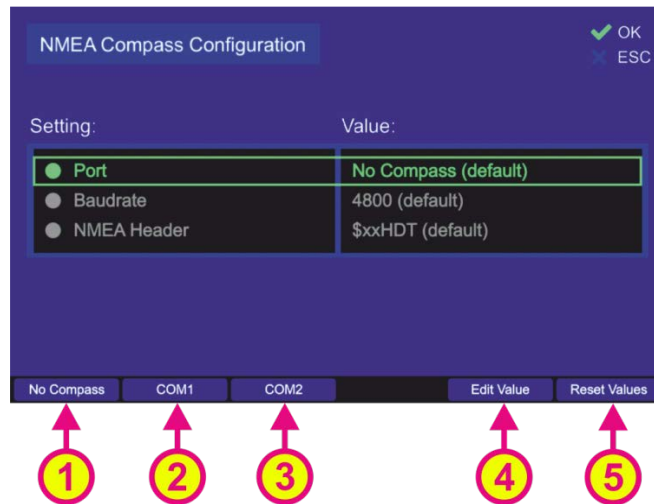
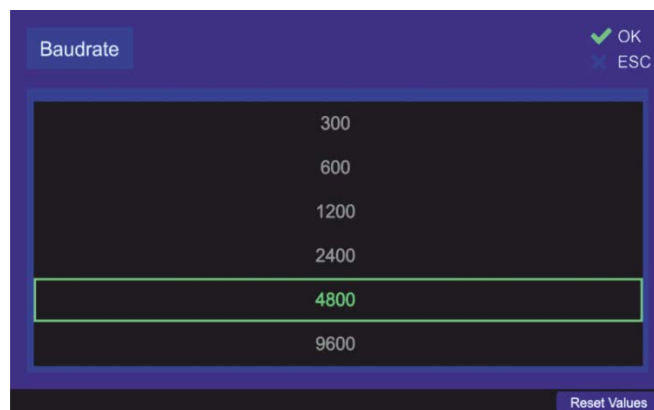
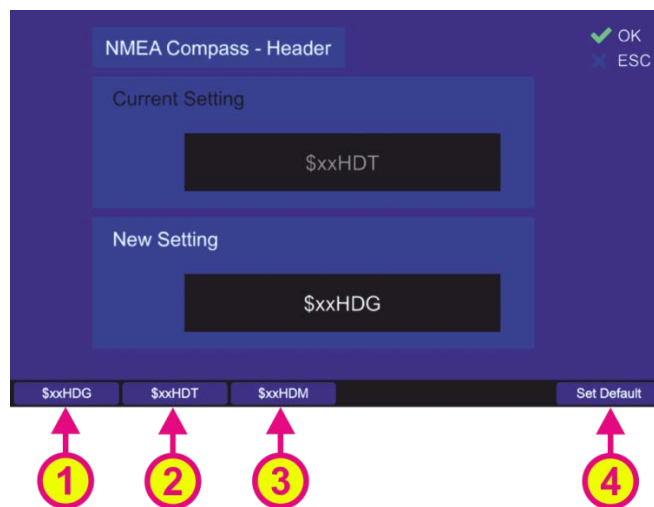
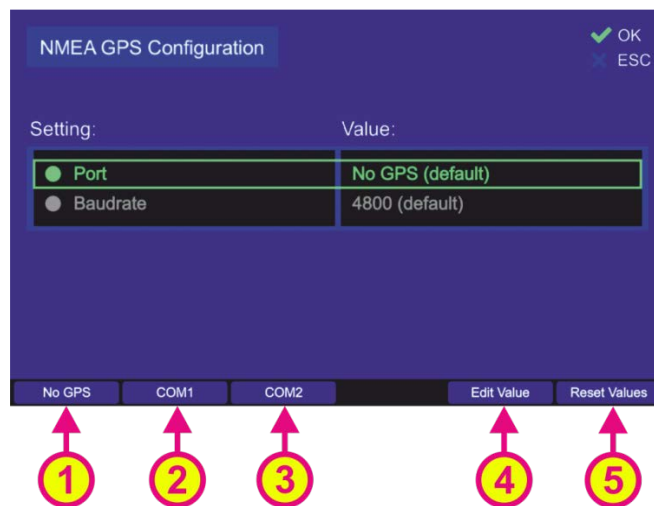

Fig. 152 Compass configuration settings
Fig. 154 Compass baud rate setting
Fig. 155 Compass header setting
Fig. 156 NMEA GPS configuration settings
Following sub-menu will appear (s. Fig. 152).
Pressing the hotkey “Reset Values” (s. Fig. 152, position 5) will set all menu items to default values.
- The communication port can be changed by pressing one of the visible hotkeys, e.g.: “No Compass”, “COM1” or “COM2” (s. Fig. 152, positions 1, 2 or 3), or the hotkey “Edit Value” while menu item “Port” is marked (s. Fig. 152, position 4). Using the hotkeys 1, 2 or 3 on the top level dialog “NMEA Compass Configuration” (s. Fig. 152), the value of the “Port” setting can be changed without opening the corresponding dialog.
- To change the baud rate, press the hotkey “Edit Value” while the menu item “Baudrate” is marked (s. Fig. 152). The corresponding sub-dialog will be opened (s. Fig. 154).
- In order to change the NMEA header setting, press the hotkey “Edit Value” while the menu item “NMEA Header” is marked (s. Fig. 152). The corresponding sub-dialog will be opened (s. Fig. 155).
- Choose the new setting using one of the hotkeys (s. Fig. 155), which will then appear in the “New Setting” field:
- Press the hotkey “Set Default” (s. Fig. 155, position 4) to use the default value (“\$xxHDT”).
Following sub-menu will appear (s. Fig. 156).
- Pressing the hotkey "Reset Values" (s. Fig. 156, position 5) will set all menu items to default values.
- In order to change this setting, press the hotkey “Edit Value” while the menu item “Port” is marked (s. Fig. 156). The corresponding sub-dialog will be opened (s. Fig. 155).
- To change the baud rate, press the hotkey “Edit Value” while the menu item “Baudrate” is marked (s. Fig. 156). The corresponding sub-dialog will be opened (s. Fig. 158).